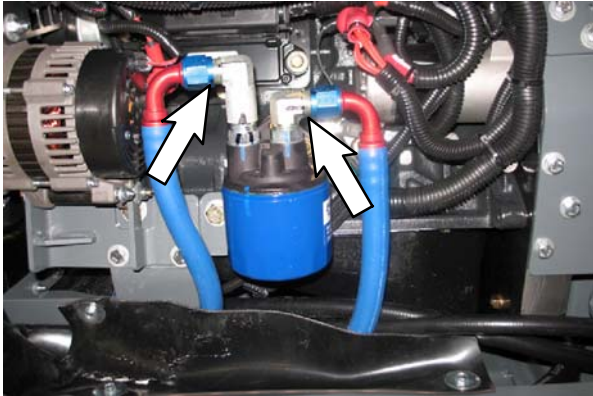

FIG. 5
1. Open the engine shroud and inspect the oil filter adaptor fittings for leaks and tightness. (Fig. 5)